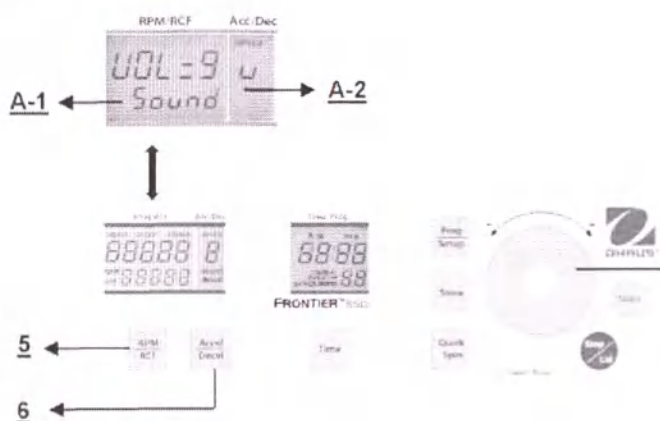

Figure 31
Proceed as described under point 4.1.2 to enter this program mode and then press the key **"Accel/Decel"** (6). In the display **"Acc/Dec"** (A-2) the word **"Service"** flashes. Now select the letter **"U"** with the adjusting dial (4). As a result, in the display **"RPM/RCF"** (A-1) the words **"Vol=0- 9/Sound"** appear. After pressing the key **"RPM/RCF"** (5), you can adjust the desired volume between 0 (low) and 9 (loud) with the adjusting dial (4) (See figure 31).